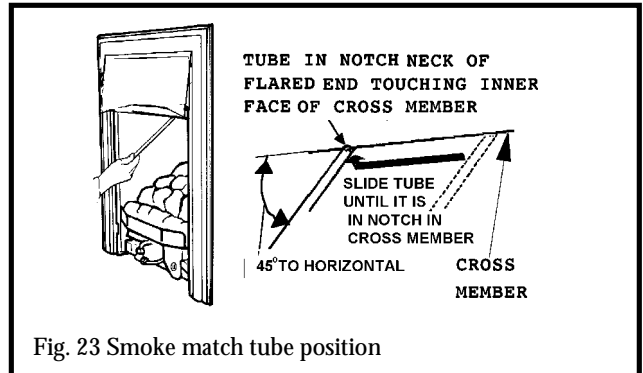

Fig. 23 Smoke match tube position
10.2.4 Place the smoke match tube into the convection box at the right hand side and immediately below the black top cross member. Angle it at approximately 45° to the horizontal. Insert the tube so that the neck of its flared end touches the inside surface of the edge of the cross member (figure 23). Keeping the neck of flared end in contact with the edge of the cross member, slide the tube to the left until you feel it enter the notch in the edge of the cross member. Make sure that the tube is pointed upwards at 45° to the horizontal.